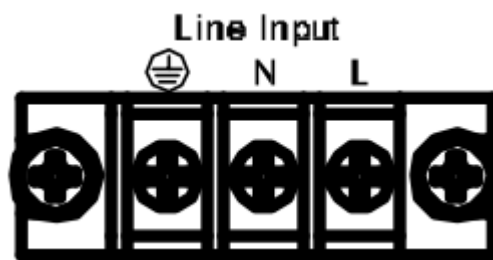

Fig 2-1 36000E Series AC Input Connection
- 2.2.2. Refer the drawing on the rear panel of 36000E Series high power load in Fig 2-1.